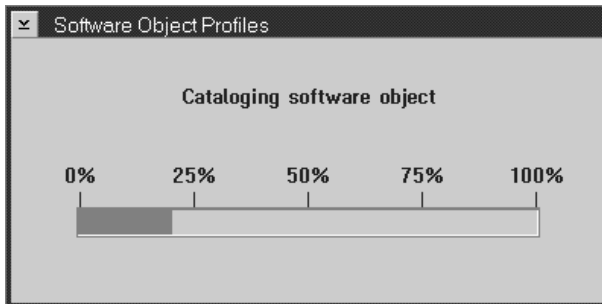

Figure 111. Software object profiles progress indicator
3. A progress indicator is displayed, as shown in Figure 111.